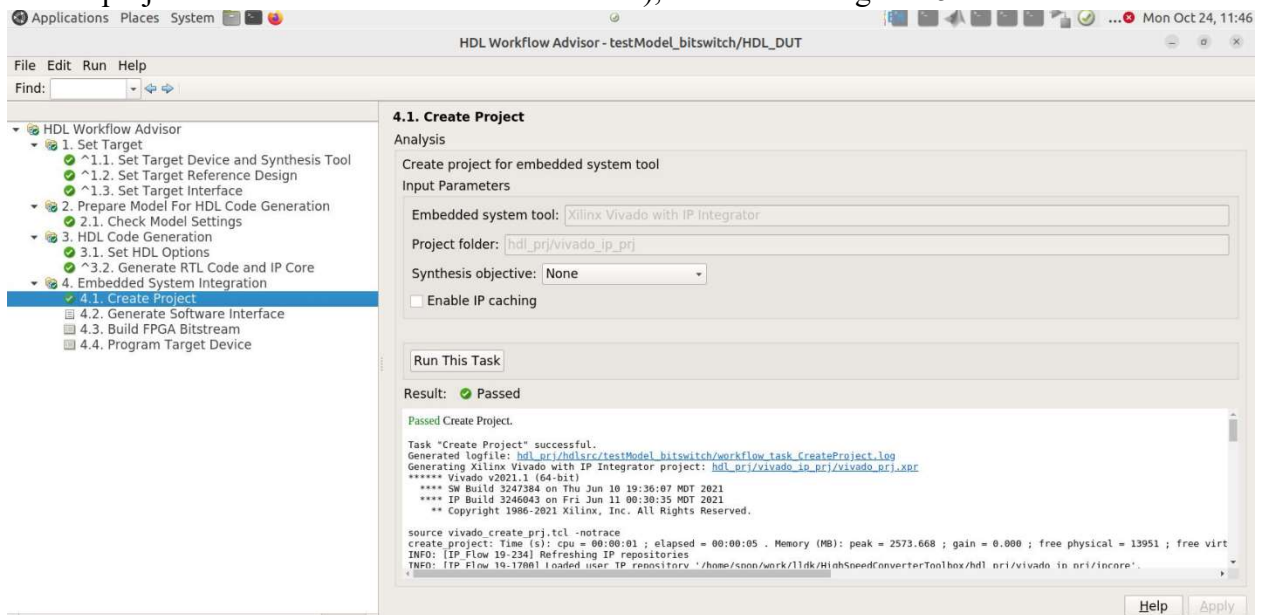

Figure 15. Create Project
3.1 Run the task (this will create the Vivado block design in the hdl_prj/vivado_ip_prj folder, or the project folder name that was chosen in 1.1), as shown in Figure 15.